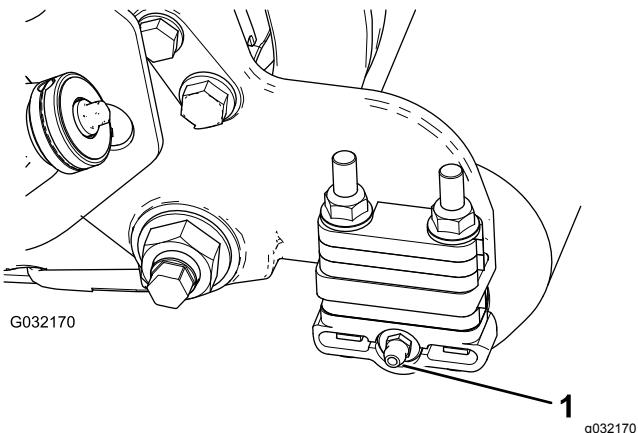

Figure 2
3. Install the 90-degree grease fitting so that it faces rearward (Figure 2).